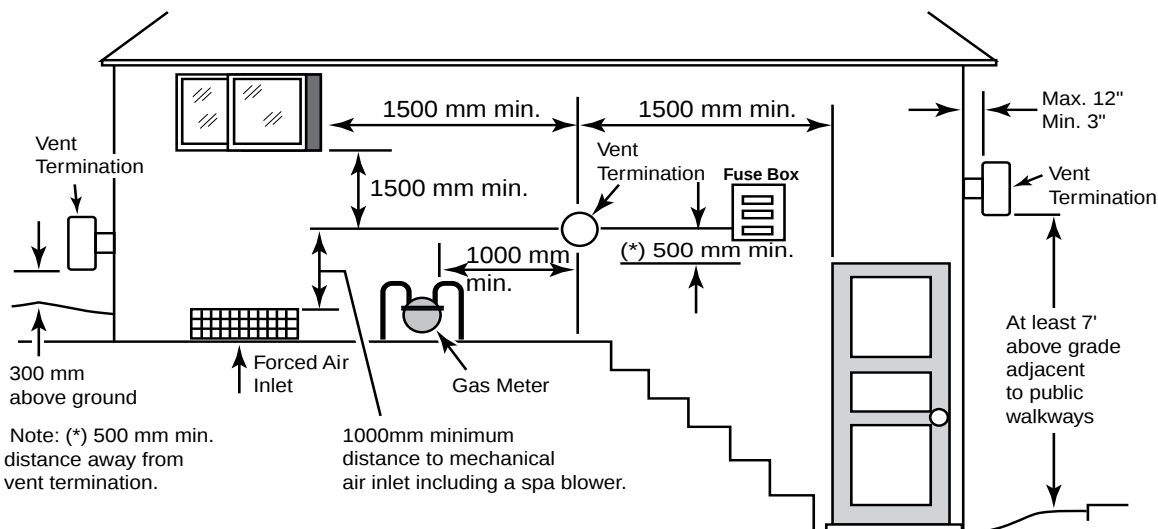

Figure 22.
- b) When on side is open, the flue terminal shall be within 500 mm of the opening, and discharging in the direction of the opening (see Figure 22). There shall be no other flue terminals, gas meter, electricity meter, fuse box or openings into the building along the wall within the 500 mm distance. The flue terminal shall be located to ensure that a free flow of air across it is achieved.